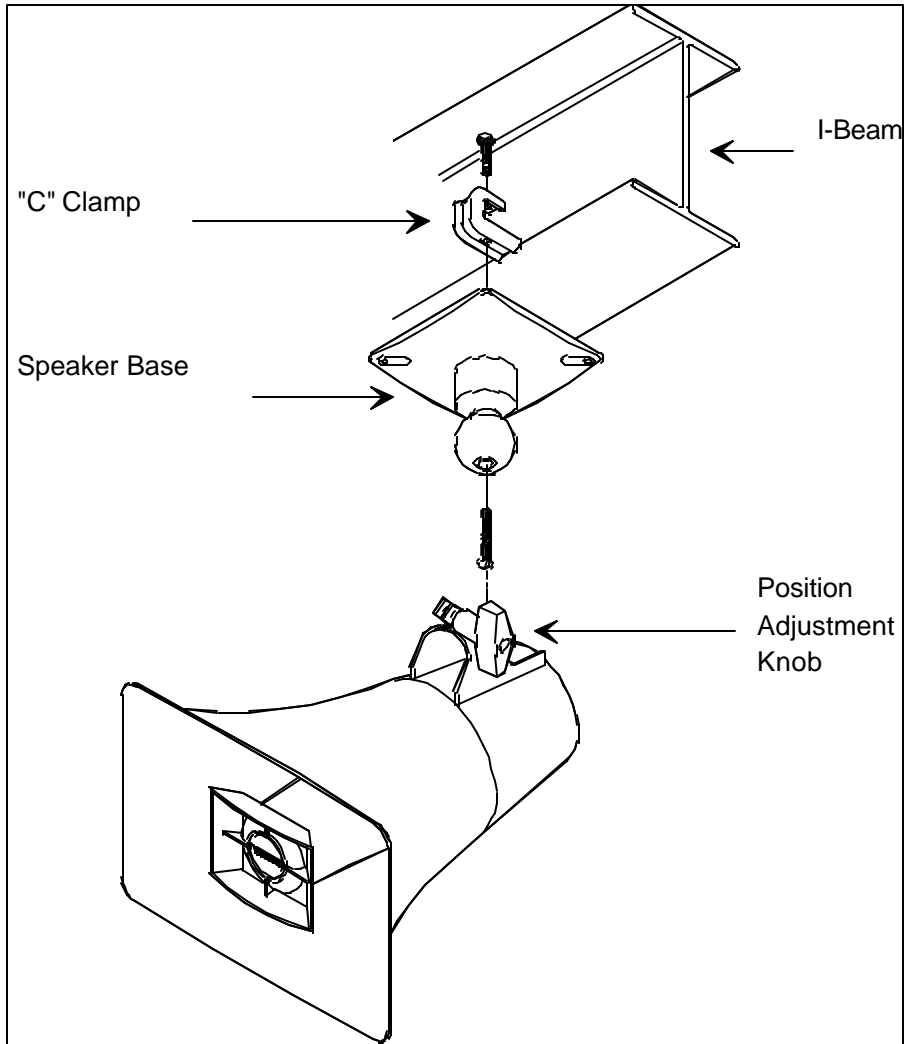

Figure 3 - Mounting to a Beam with a "C" Clamp
- A "C" clamp is provided with the horns to allow mounting to a beam. Place the bolt through the hole in the bottom of the base to secure the "C" clamp to the beam (See Figure 3).